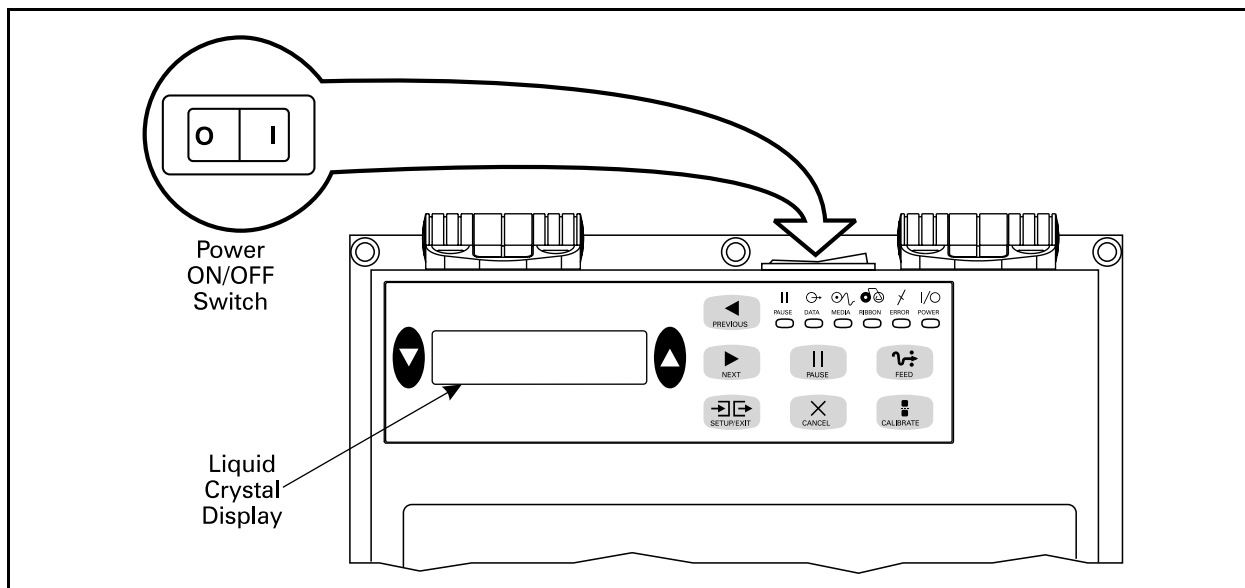

Figure 7. Control Panel
Refer to Figure 7 on page 12 and ensure that the AC power ON/OFF switch is in the OFF (O) position. Ensure that power is off to the host and the applicator. Insert each connector fully and tighten all screws. When connecting a parallel interface cable, secure the cable to the print engine with the two clips on the connector.
Refer to Figure 7 on page 12 and ensure that the AC power ON/OFF switch is in the OFF (O) position before connecting the AC power cord to a nearby electrical outlet.
The Power On/Off Switch is located on the top of the print engine housing, as shown in Figure 7. When this switch is placed in the ON (|) position, the POWER light turns ON and the print engine automatically performs a Power-On Self Test (POST). The Liquid Crystal Display (LCD) validates the steps in the self test.
The control panel shown in Figure 7 contains a backlit LCD. It shows operational status as well as setup modes and feature parameters.